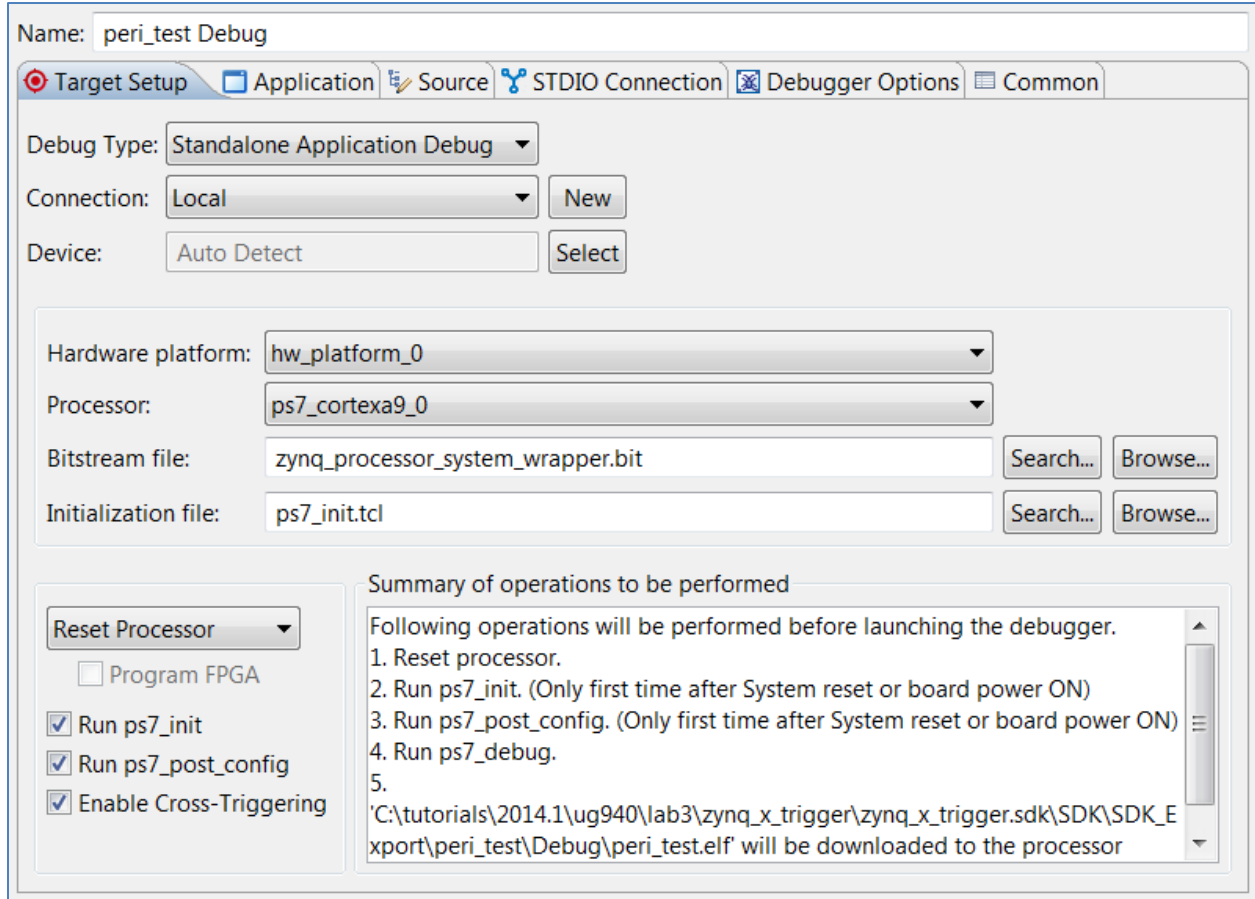

Figure 76: Enable Cross-Triggering
12. Click **Debug** (FIGURE 76).